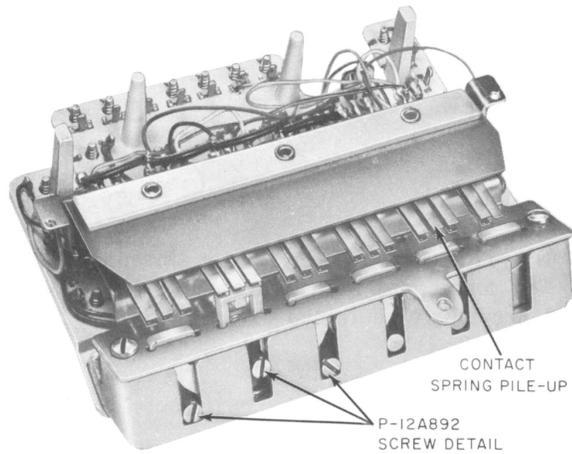

Fig. 2—636A Key, Bottom View
2.12 Field maintenance of the 636A key (Fig. 2 and 3) is limited to cleaning the contacts with a 265C tool.
2.13 Contact follow and separation is obtained by using a 363 tool at a point adjacent to contact spring pile-up (Fig. 2). When adjusting springs: